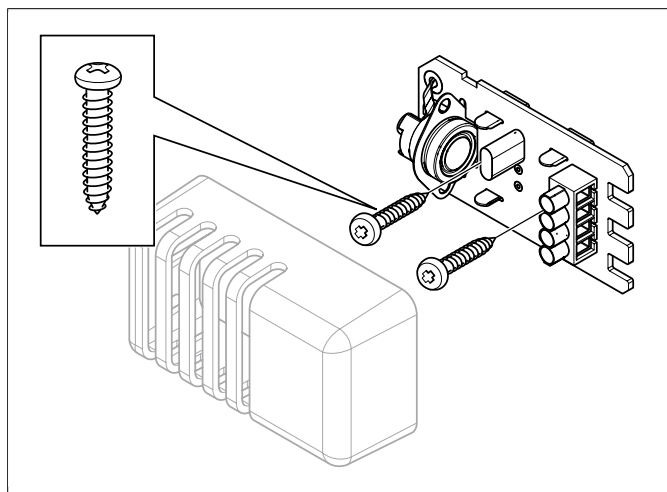

**Figure 14:** Installing the sensor
12. Install the sensor on the wall see **Figure 14**, Page 6. Tighten the screws carefully to avoid breaking the circuit board.